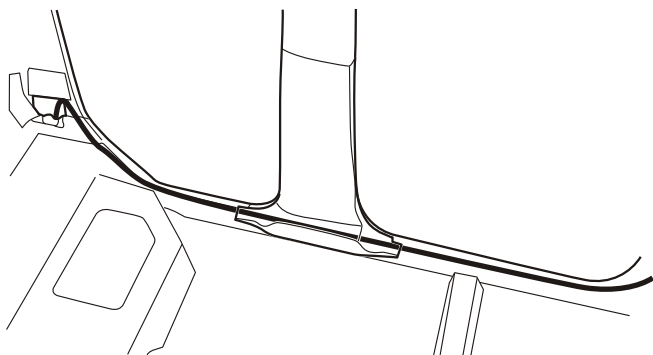

Figure 20
33. Run the canopy power harness along the vehicle body harness, use a guide wire to feed the canopy power harness behind the “B” pillar trim panel. Cable tie the canopy power harness to the vehicle body harness every 200 mm. Refer to figure 20.